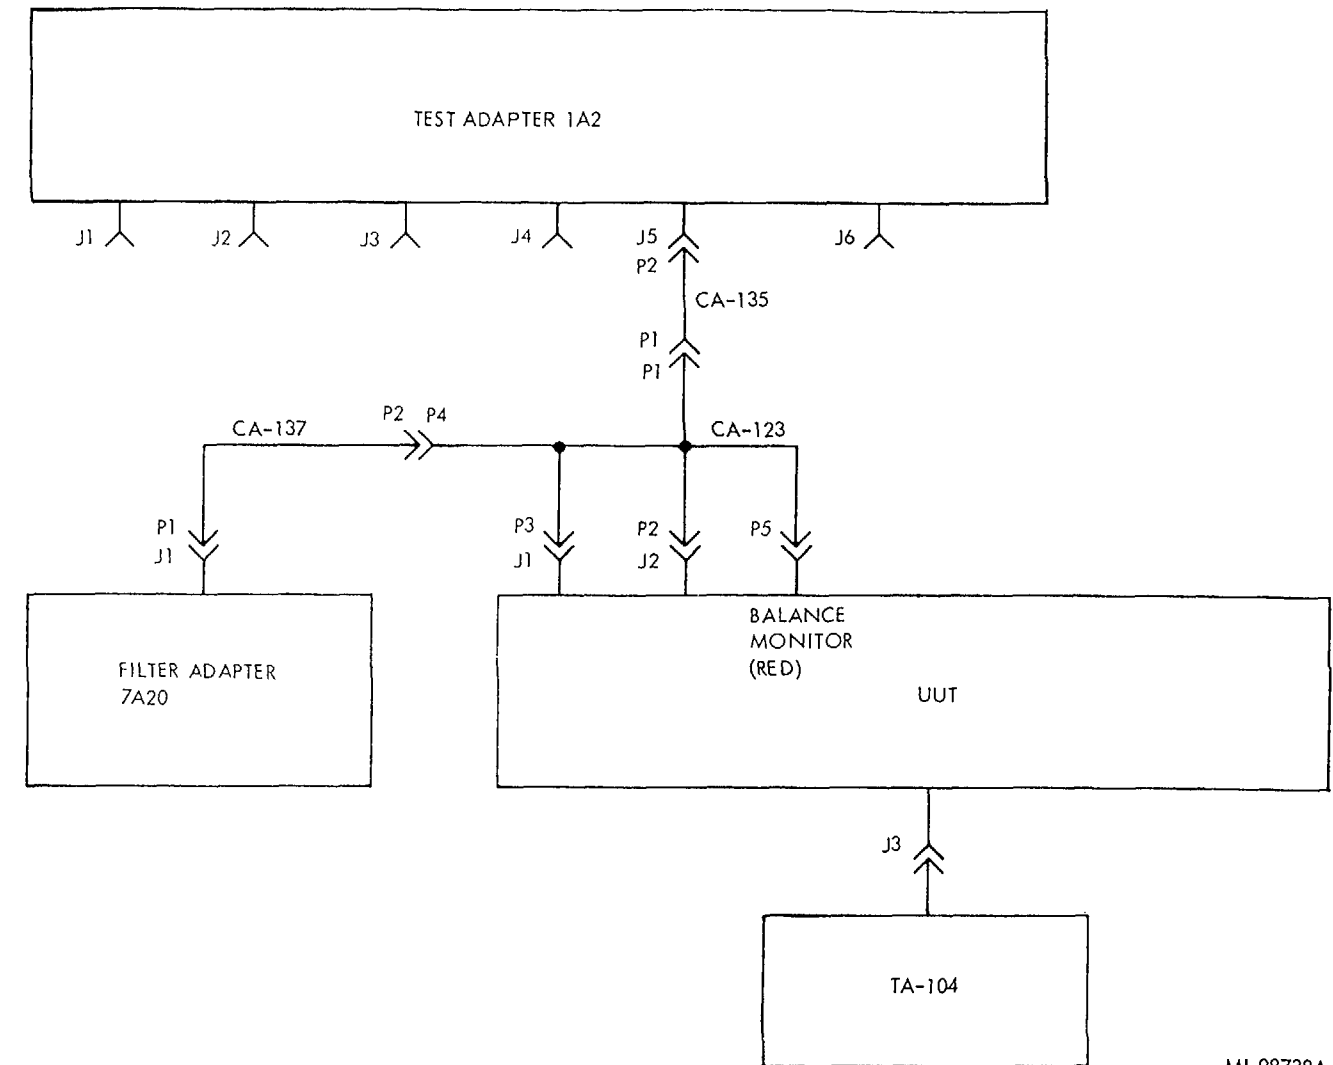

Figure 4-1. Cable hookup diagram.
REF TM 6	<ul style="list-style-type: none"> <li>a. Connect the cables (fig. 4-1).</li> <li>b. Position the UUT switches as follows:               <ul style="list-style-type: none"> <li>(1) Set the ON/OFF switch to ON.</li> <li>(2) Set the OPERATION/BALANCE switch to OPERATION.</li> <li>(3) Position the TABLE ROTATION RATE SELECTOR MR/SEC switch to REMOTE.</li> </ul> </li> <li>c. Press the PROCEED switch.</li> </ul> AN/TSM-93 resistance measurements indicate less than 10 ohms between J2-T and J2-S. Proceed as follows: